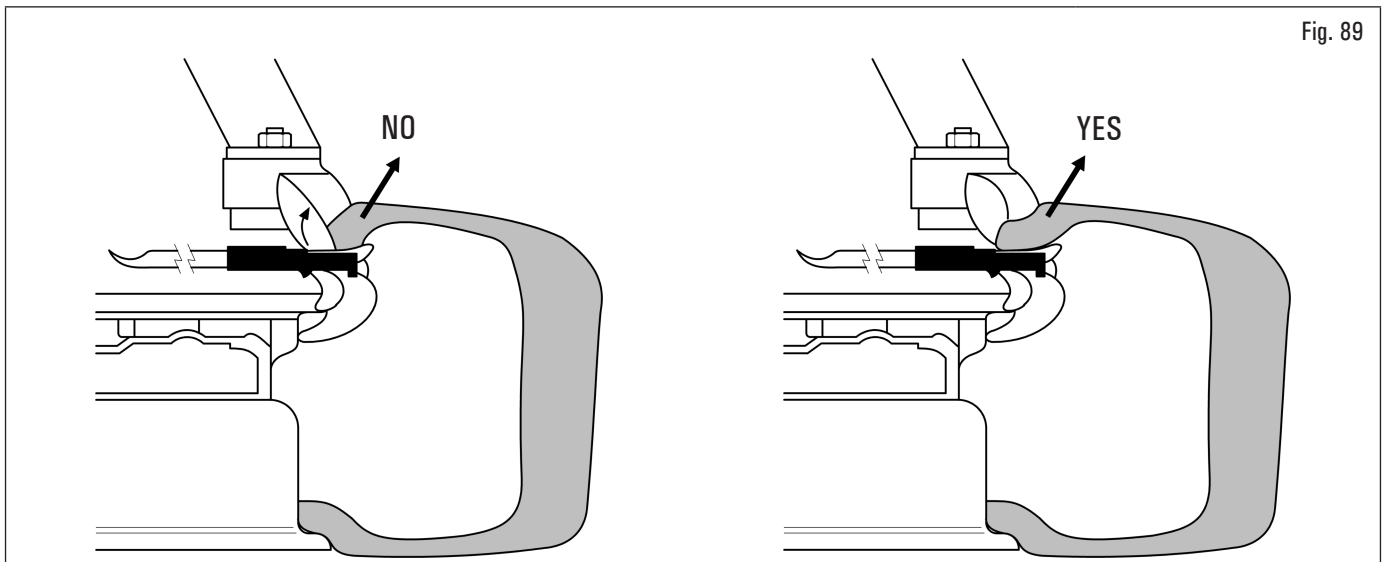

Fig. 89
11. keeping the lever firmly in place, make a brief anti-clockwise rotation of the chuck to facilitate the correct positioning of the bead on the lever itself: the lip of the bead in the portion in contact with the lever must be facing the operator and not towards the inside of the tyre (see Fig. 89);